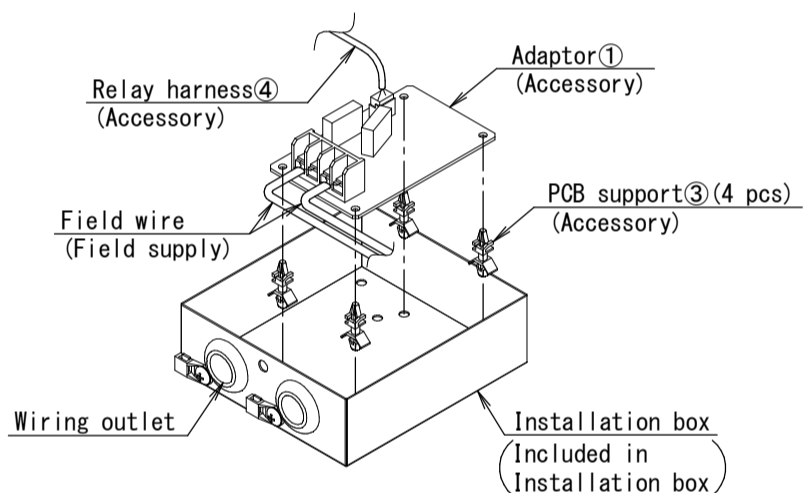

Figure 2
(3) Mount the Adaptor① on the Installation box with the PCB supports③ attached to this Adaptor. (Figure 2)